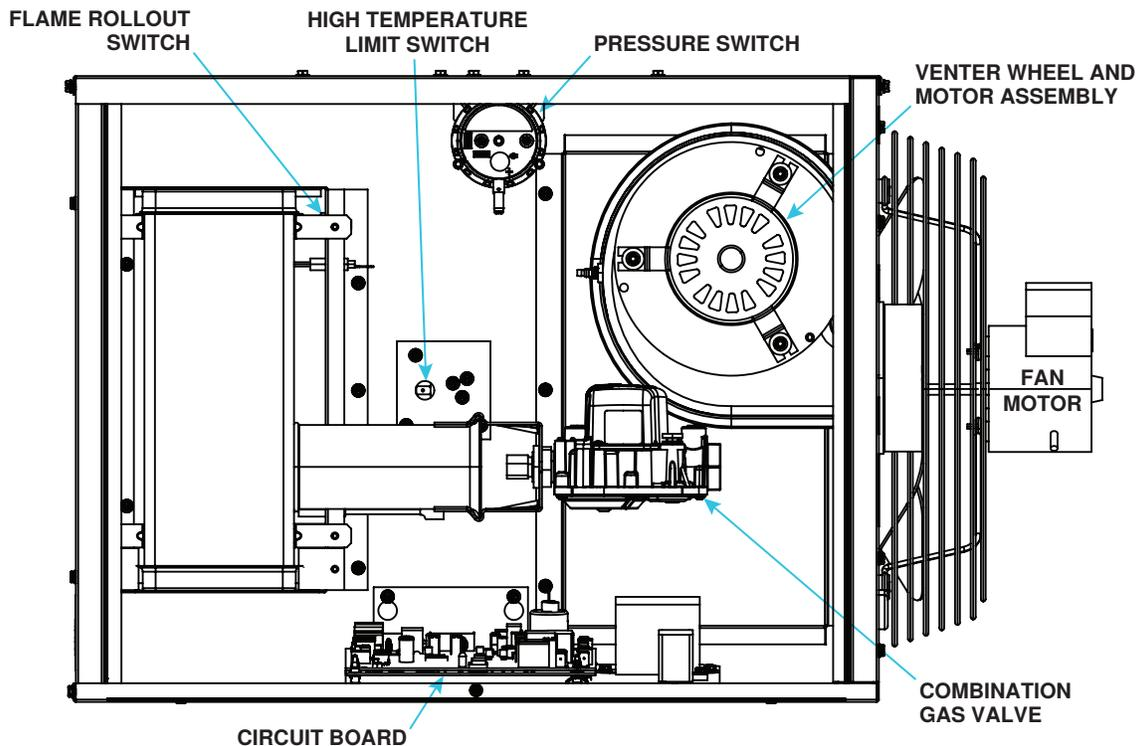

Figure 13. Control Locations (Typical)
- The pressure (combustion air proving) switch (see Figure 13) is a pressure-sensitive switch that monitors air pressure to ensure that proper combustion airflow is available.
All units are equipped with a temperature-activated, automatic-reset high temperature limit switch (see Figure 13). The switch is factory-set and is non-adjustable. If the setpoint is reached, the switch interrupts the electric supply to the combination gas valve. This safety device provides protection in the case of motor failure or lack of airflow due to a restriction at the inlet or outlet.
The venter motor is assembled to the venter wheel (see Figure 13) and operates to provide combustion airflow. Operation is controlled by the circuit board (refer to Circuit Board \(DSI Control Module\) section).
The combination gas valve (see Figure 13) is powered by the 24V control circuit through the thermostat and safety controls. The diaphragm-type valve is pre-set at the factory and provides regulated gas flow.
The fan motor (see Figure 13) is equipped with automatic-reset thermal overload protection. If the motor does not run, the cause may be due to improper current. Ensure that the correct voltage is available at the motor.
The heater's ignition system is controlled by a circuit board (see Figure 13), a Direct-Spark Integrated (DSI) control module (see Figure 5), that monitors the safety devices and controls the operation of the fan and venter motors and the combination gas valve between heat cycles. The module's Seven-Segment Display (SSD) is visible through a viewport on the access door panel. In addition, there is a status LED on the bottom of the heater. Its status indications are **off** (heater is not powered or control board fault), **steady on** (heater is on with no faults), or **flashing** (heater is on with fault(s)). Additional status indications appear on the display at the bottom of the control module (labeled as DSP1, see Figure 5). The display's codes are listed and described in the Unit Troubleshooting Using DSI Control Module section.